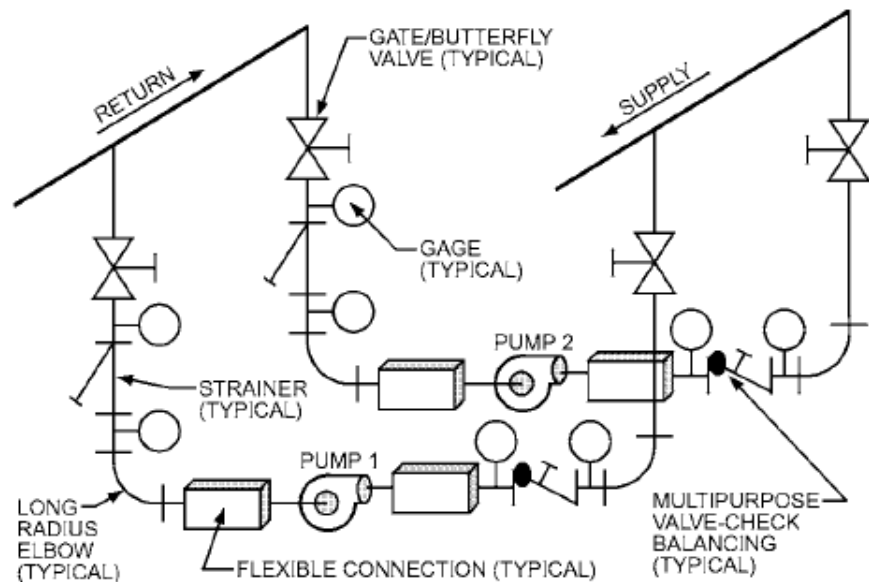

Figure 31 Typical Piping for Parallel Pumps
- The piping of parallel pumps (Figure 31) should permit running either pump.